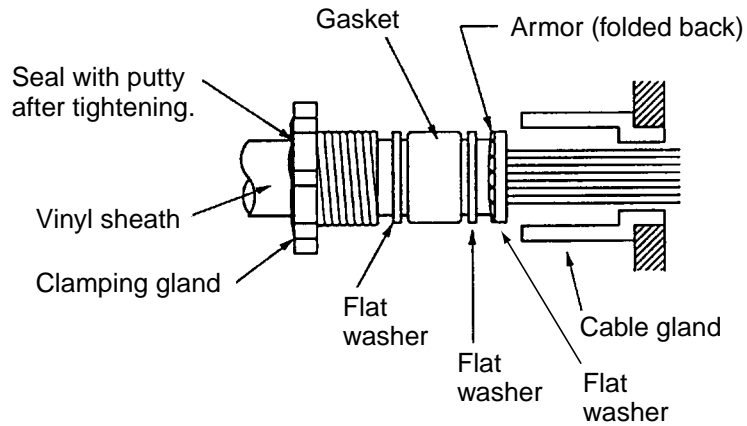

Figure 2-3 Passing clamping gland, washers and gasket on the multicore cable
5. As shown in Figure 2-3, slide the clamping gland, flat washers and gasket on the multicore cable.
6. Fold back armor by 5 mm and pass it through the two flat washers as shown in Figure 2-3.